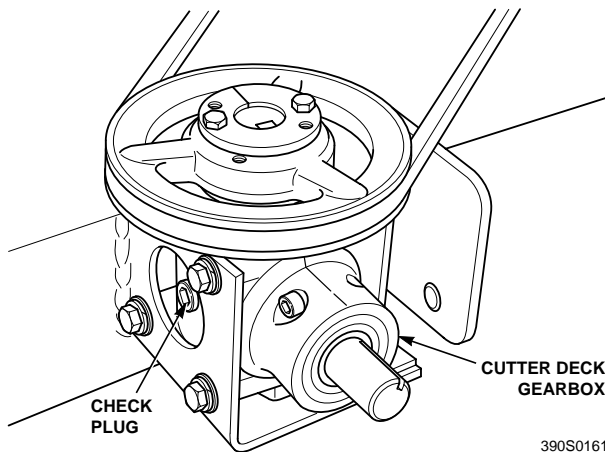

Figure 7-12 Cutter Deck Gearbox
The fluid level in the cutter deck gearbox (Figure 7-12) should be checked after every 100 hours of operation or bi-weekly, whichever occurs first.
2. Clean and remove the check plug from the side of the gearbox (See Figure 7-12). Visually check that the lubricant level is up to the bottom edge of the check plug hole. If lubricant is low, add SAE 80W90 lubricant through the check plug hole in the gearbox until it is level with the bottom of the check plug hole. Install the check plug and tighten securely.